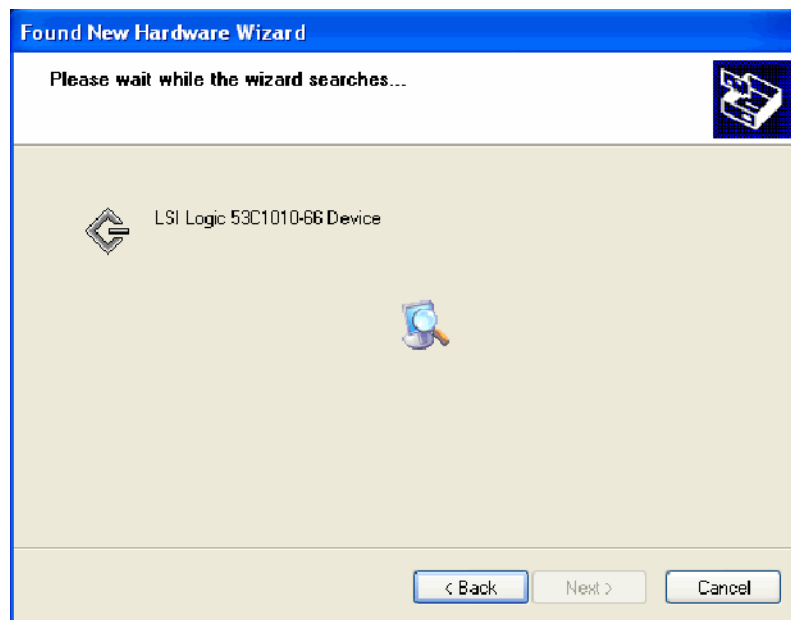

Figure 3: Wizard searching for drivers
5. The wizard will search for the required drivers, as shown in Figure 3. When the drivers are found, the Next button will be enabled.